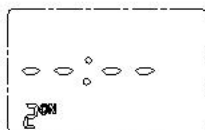

Figure11
4.2.3.4 Repeat the above steps to Complete all bell time settings,press the "R" key to elimination the Groups do not need , then LCD display "◦ ◦ ◦ ◦", As shown in Figure11, again press the "R" button can recall the setted.